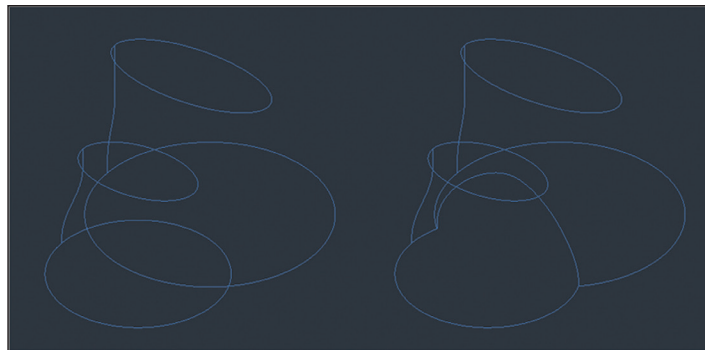

FIGURE 17.22 Wireframe representations of two separate lofted ventilation towers (left) and a single object (right) created with Boolean Union
3. Select the Union tool in the Boolean panel, click the left and right ventilation towers, and press Enter. A curve representing the precise intersection of these two forms' surfaces appears in the wireframe representation (see Figure 17.22).